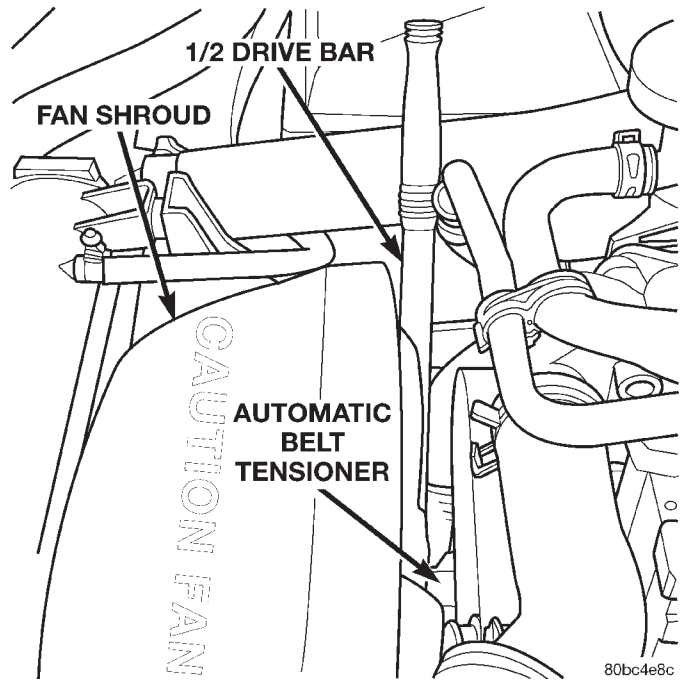

Fig. 28 Installing The Accessory Drive Belt
- (1) Position the belt on the accessory drive pulleys. Rotate tensioner pulley until belt can be installed in the original position (Fig. 28).